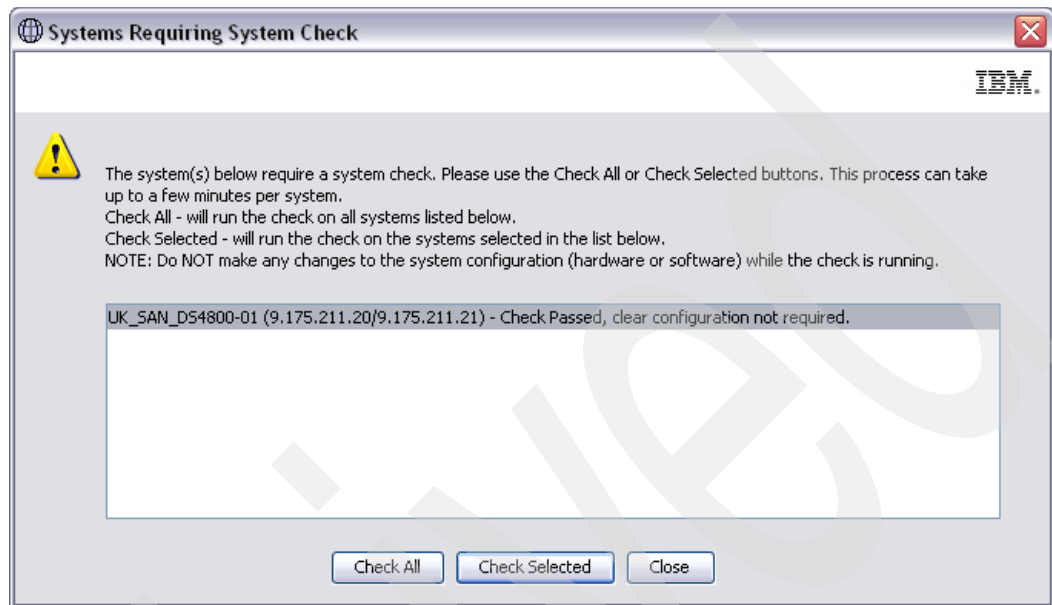

Figure 7-17 DbFix status notification
- Click **Check All** or **Check Selected**, depending on which mode of operation you are using. A working window is displayed while the file system checks are running. Allow the operation to run to completion without interruption. Figure 7-17 shows the status window confirming that the DbFix utility did not detect any errors. Detailed logs are stored in the `system_check_logs` subdirectory.